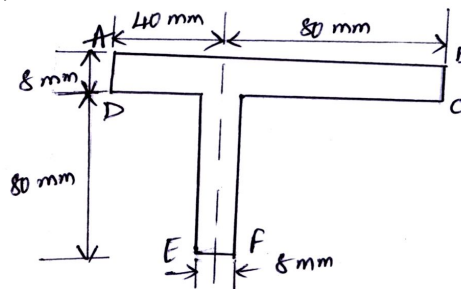

Fig.Q.2(b)
- b. Calculate the maximum direct stress due to bending moment of 1500Nm acting in a vertical plane as shown in Fig.Q.2(b) (12 Marks)